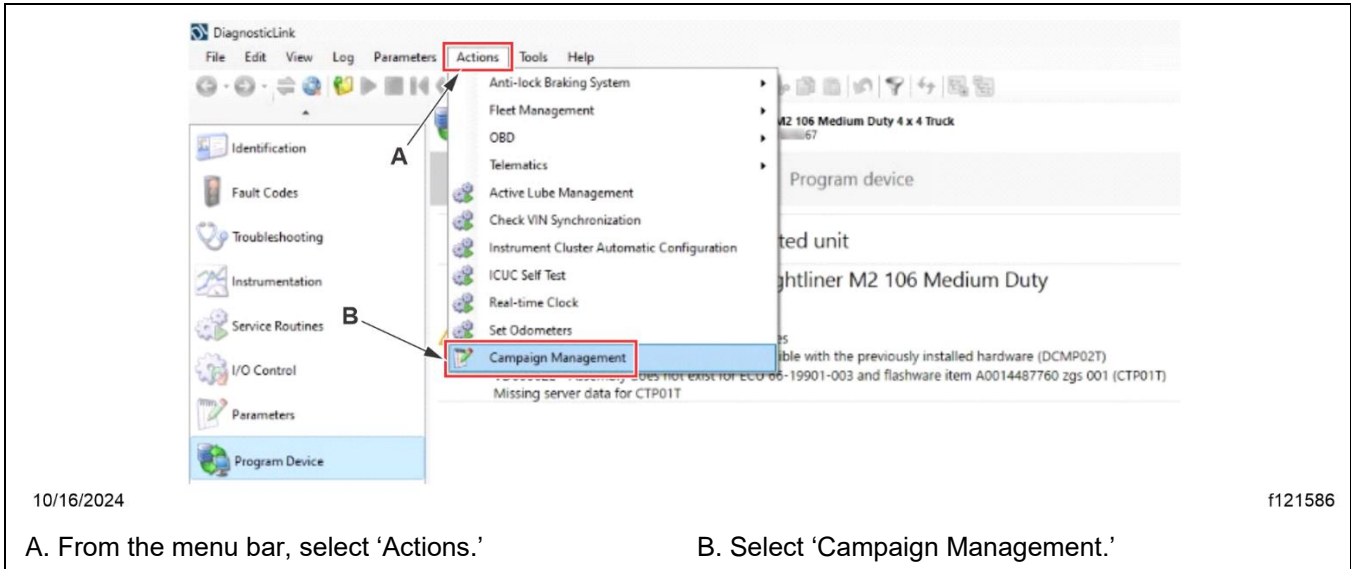

Fig. 3, Opening the Campaign Management Window
9.1. From the menu bar, select 'Actions,' then select 'Campaign Management.' See Fig. 3.